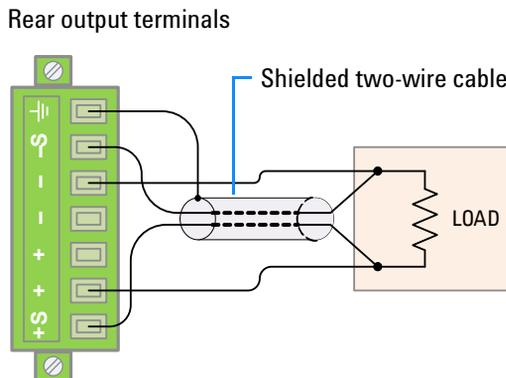
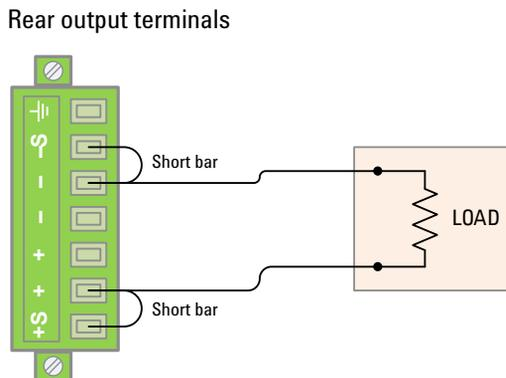

Figure 3-3 Remote sensing connections
Figure 3-4 Local sensing connections
- 4 Loosen the top screws with a Phillips screw driver and connect the rear output terminal block sensing (S+ and S-) and output (+ and -) terminals to the load as shown in Figure 3-3 using a shielded two-wire cable.
The sensing outputs (S+ and S-) must not be left unconnected. It must be connected locally (Figure 3-4) or remotely (Figure 3-3).
- 2 Remove the connections between the U3606A sensing (S+ and S-) and output (+ and -) terminals. Using a shielded two-wire cable, connect the U3606A sensing terminals to the load as shown in Figure 3-3. Observe the polarity when connecting the sensing leads to the load.